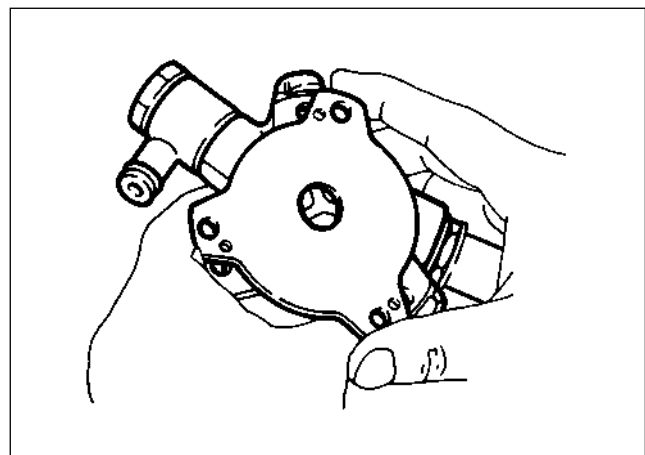

Figure 23. Installing Vacuum Pump Center Plate
- After installation of seal (O-ring), install the center plate (figure 23).